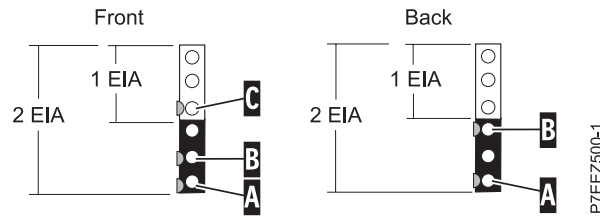

Figure 2. Marking holes on the front and rear of the rack frame
1. Facing the front of the rack and working from the right side, locate the bottom EIA unit that your system will use. Make a note of the EIA location. Use tape, a marker, or a pencil to mark the bottom hole of this EIA unit as **A**. Mark the rack so that the mark can also be seen from the rear of the rack, as shown in Figure 2 on page 5.
2. Beginning with the hole identified by mark **A**, count up one hole and place a second mark as **(B)**. Mark the rack so that the mark can also be seen from the rear of the rack, as shown in Figure 2.
3. Beginning with the hole identified by mark **B**, count up two holes and place a third mark **(C)**, as shown in Figure 2.
7. Beginning with the hole identified by mark **A**, count up two holes and place a second mark **(B)**, as shown in Figure 2.